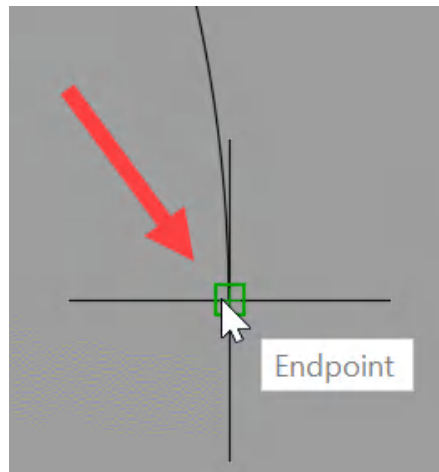

Figure 11.13: The Endpoint snap at the end of the arc
6. You will then be prompted for the second point. Use the **Endpoint** snap at the end of the arc, as shown in *Figure 11.13*.